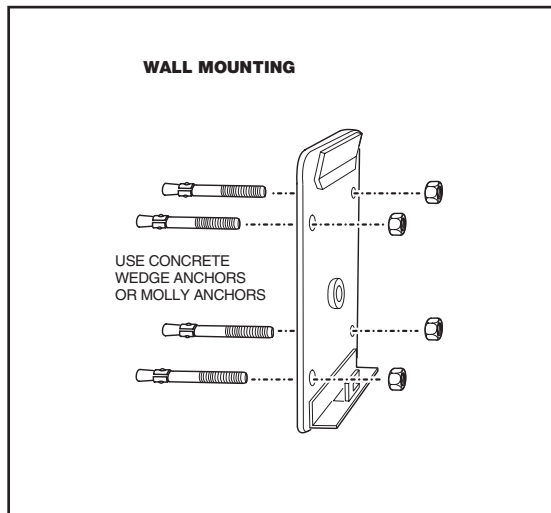

Figure 4. Wall Mounting Keypad Backplate
- ❑ When mounting the keypad to a concrete wall, use concrete wedge anchors or molly anchors (see Figure 4).